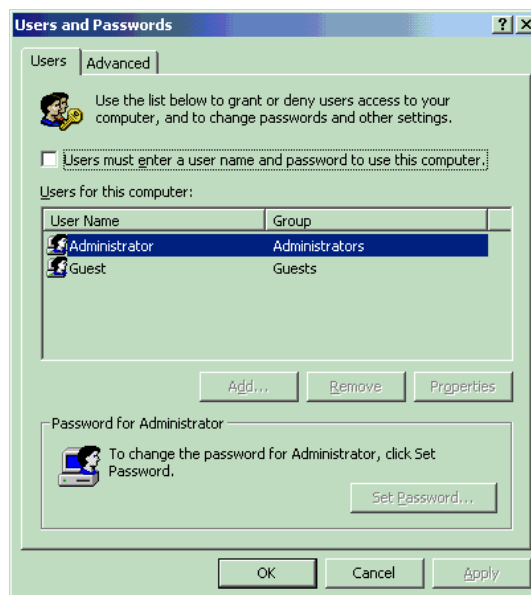

Figure 10. Users and Passwords Window
2. From the **Control Panel**, double-click **Users and Passwords**. The Users and Passwords window opens (Figure 10).